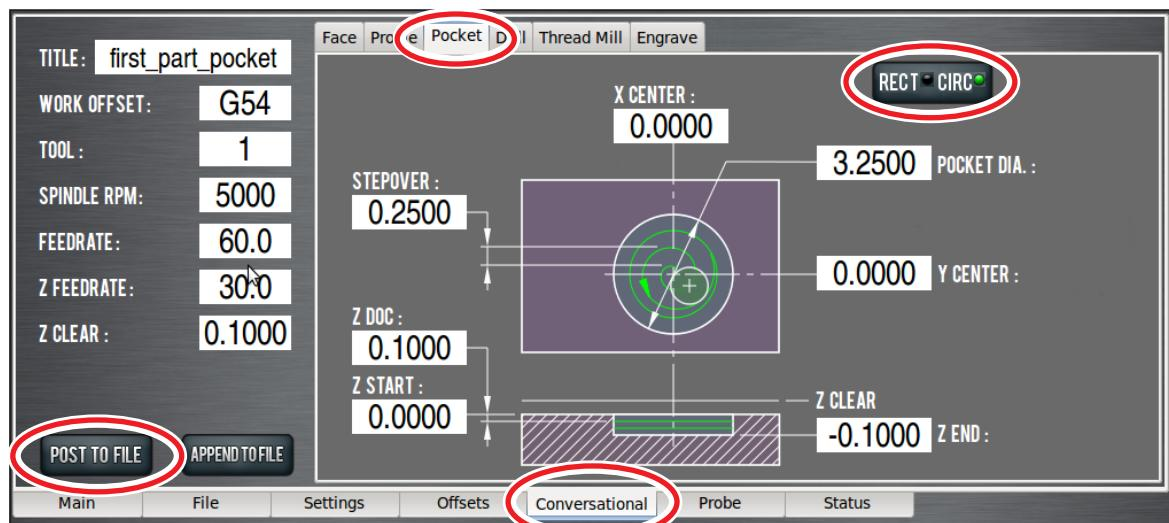
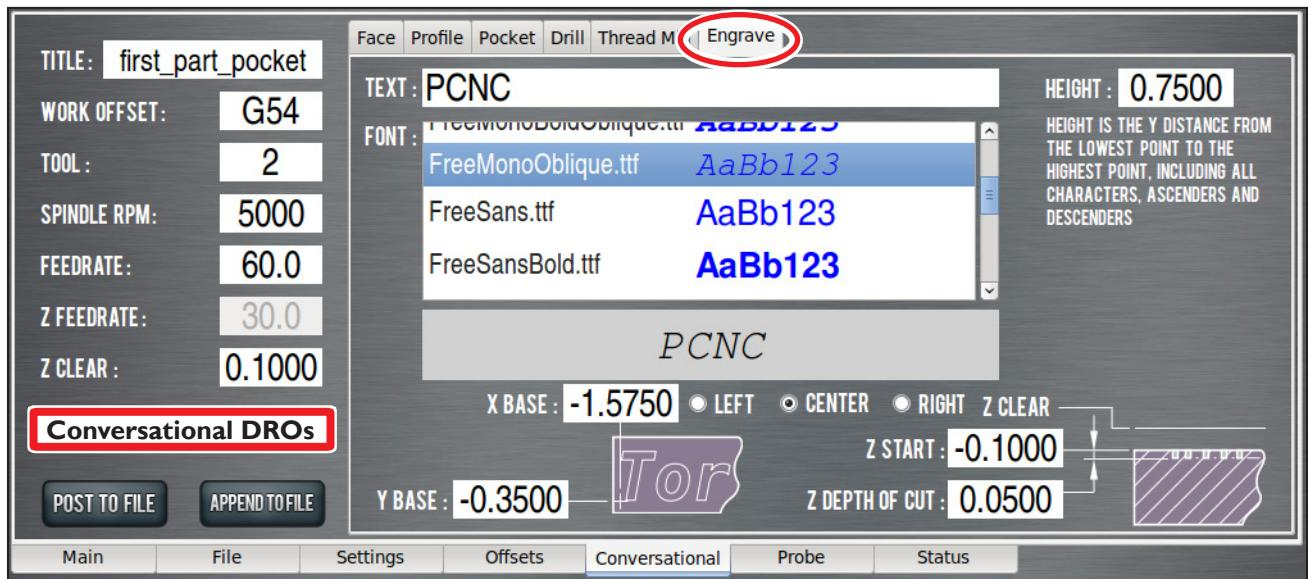

Figure 5.10
Figure 5.13
To write the code for the first operation, click the *Conversational* tab (see **Figure 5.10**). The *Conversational* screen is divided into two sections: parameters common to most operations are displayed on the left and parameters (including part geometry) that are operation specific are displayed on the right.
Click the *Pocket* tab to bring up the pocketing screen. Click the *Rect/Circ* button to bring up the circular pocket screen (see **Figure 5.10**). Use this screen to generate code to create a shallow pocket (0.1000" deep and 3.250" in diameter). The conversational DRO fields should be self-explanatory and are covered in detail in chapter 6, *PathPilot Interface*, but for the first part tutorial, enter the values seen in **Figure 5.10**.
- After the values from **Figure 5.10** are entered, click the *Post to File* button to save the G-code.
Go back to the Conversational pages and click on the *Engrave* tab (see **Figure 5.10**) and the Engrave screen opens (see **Figure 5.13**). Enter the values shown in **Figure 5.13**, *Conversational DROs*. Make sure to enter *PCNC* in the text field (see **Figure 5.13**).
- Select the *FreeMonoOblique.ttf* font (see **Figure 5.13**) and change the tool DRO to 2 for the engraving operation.
- Click the *Append to File* button (see **Figure 5.13**). A file chooser dialog opens that allows you to select the file to which you want to add the engraving G-code.